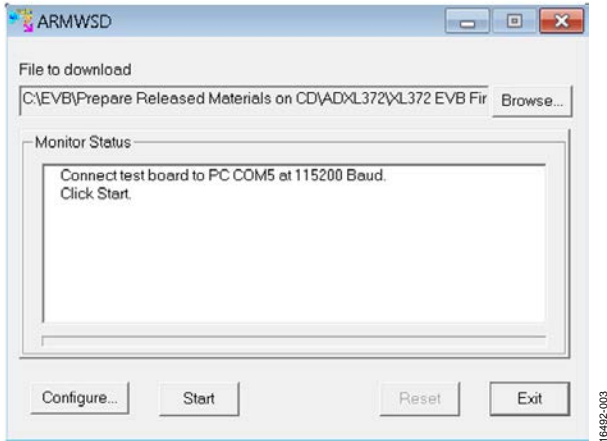

Figure 3. ISEB ARMWSD Firmware Downloader
2. Run the **ARMWSD.exe** program located in the **/ISEB_USB/FW/** folder. It displays information about the downloader, as shown in Figure 3.
6. After selecting the COM port, click **OK** to accept the changes and return to the **ARMWSD** dialog box (see Figure 3).
1. Click **Start** in the **ARMWSD** dialog box (see Figure 3) to initiate the flashing.
3. If the downloading process fails, which is indicated in the **Monitor Status** box (see Figure 3), attempt the download again by clicking **Start** and then pressing the appropriate switch combination. It may require a few attempts to reprogram the board.
4. After the download has completed, click **Reset** (as shown in Figure 3) to reset the ISEB and to begin running the new firmware. When this step is complete, the board is updated correctly.